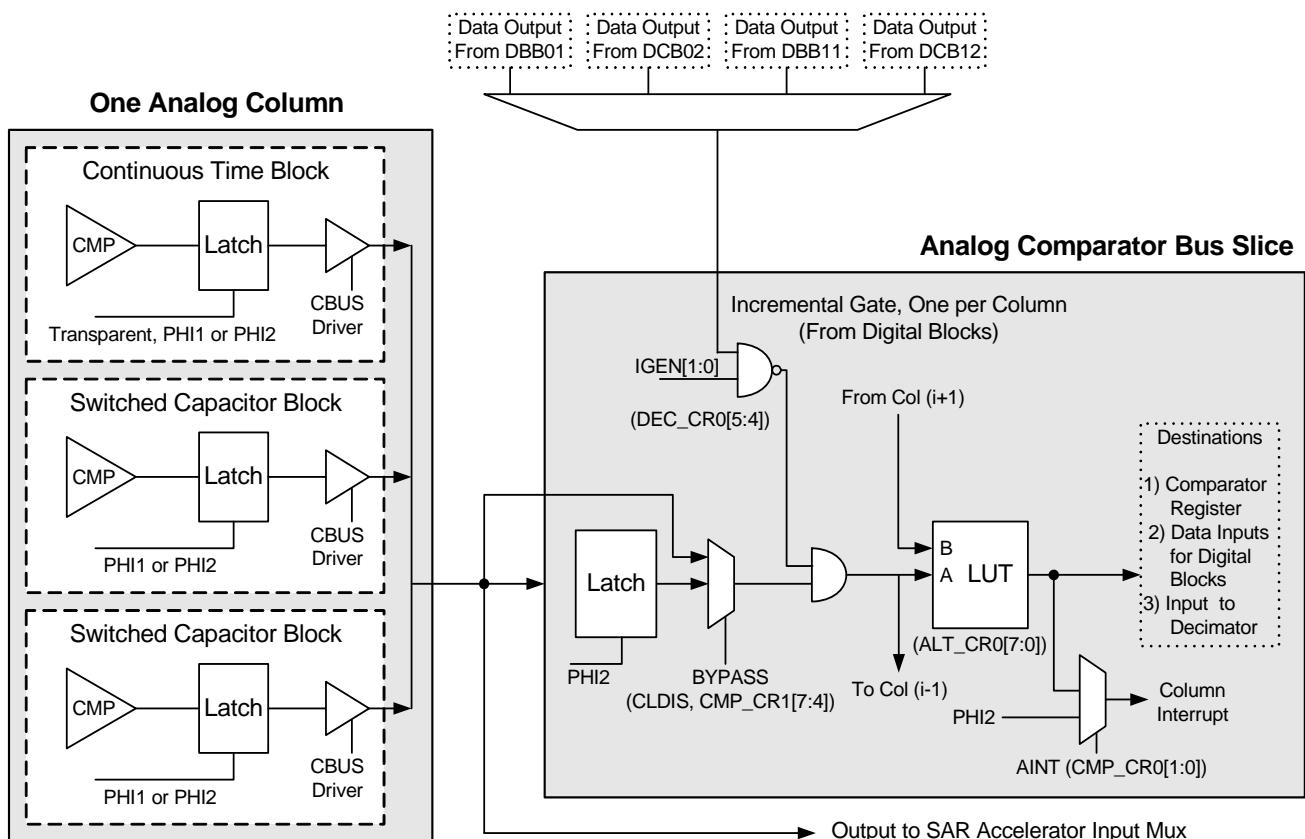

Figure 18-1. Analog Comparator Bus Slice
Figure 18-1 displays the top level diagram of the PSoC device's analog interface system.
Figure 18-1 illustrates one column of the comparator bus. In the Continuous Time (CT) analog blocks, the CPhase and CLatch bits of CT Block Control Register 2 determine whether the output signal on the comparator bus is latched inside the block, and if it is, which clock phase it is latched on. In the Switched Capacitor (SC) analog blocks, the output on the comparator bus is always latched. The ClockPhase bit in SC Block Control Register 0 determines the phase on which this data is latched and available.
As shown in **Figure 18-1**, the comparator bus output is gated by the primary output of a selected digital block. This feature is used to precisely control the integration period of an incremental ADC. Any digital block can be used to drive the gate signal. This selection may be made with the ICLKS bits in registers DEC_CR0 and DEC_CR1. This function may be enabled on a column-by-column basis, by setting the IGEN bits in the DEC_CR0 register.